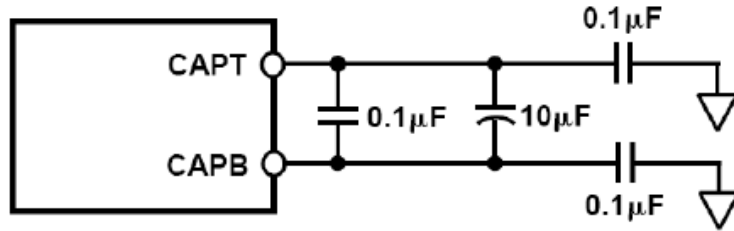

Figure 7-8. Recommended CAPT/CAPB Decoupling Network
The actual reference voltages used by the internal circuitry of the B9243AMG appear on the CAPT and CAPB pins. For proper operation when using the internal or an external reference, it is necessary to add a capacitor network to decouple these pins. Figure 7-8 shows the recommended decoupling network. This capacitive network performs the following three functions: (1) along with the reference amplifier, A2, it provides a low source impedance over a large frequency range to drive the A/D internal circuitry, (2) it provides the necessary compensation for A2, (3) it bandlimits the noise contribution from the reference. The turn-on time of the reference voltage appearing between CAPT and CAPB is approximately 15ms and should be evaluated in any power-down mode of operation.